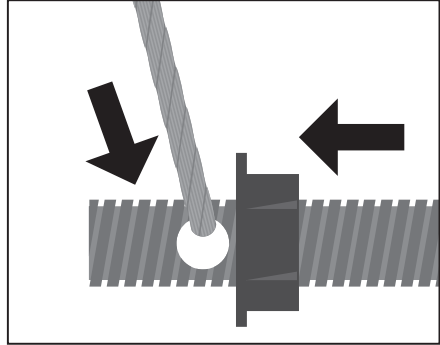

Fig. 11
5. Feed wire rope through upper guide wheel to outer column, insert through mounting hole in bolt and tighten (Fig. 11).